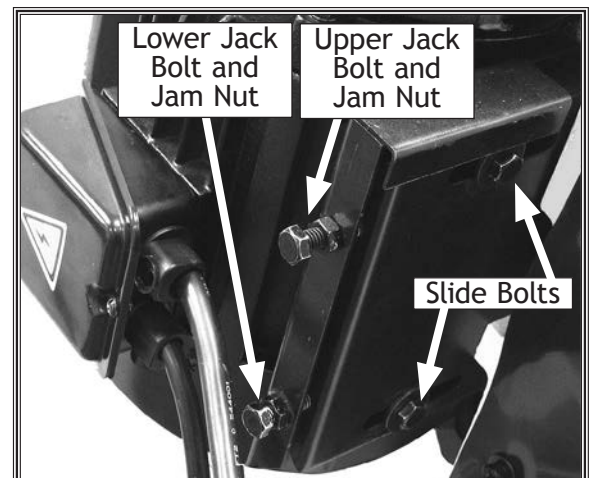

Figure 28. Belt adjustment mechanism.
3. Use a 12mm wrench and loosen the two slide bolts and both jack-bolt and jam nuts shown in **Figure 28**.